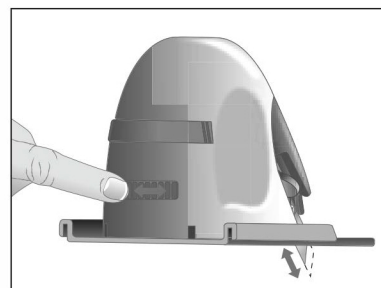

Fig. 4
- 1 The blade can be raised or lowered by turning the **Blade Adjustment Knob** found on the back side of the Cutter (**Fig. 4**).